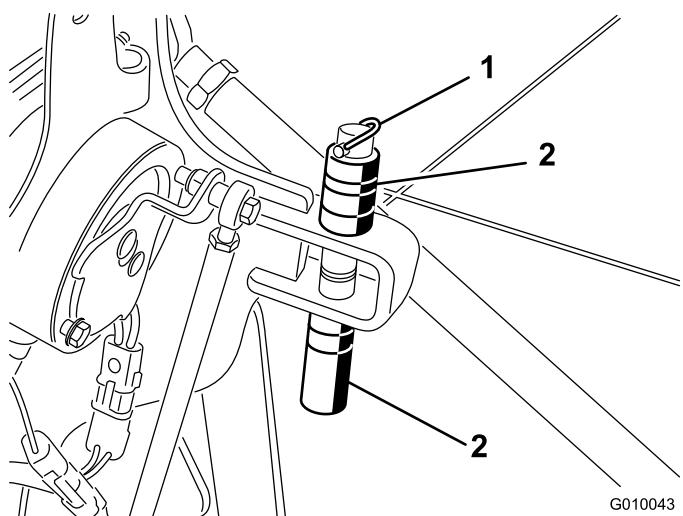

Figure 28
- Remove the lynch pin retaining the spacers and depth pins (Figure 28).